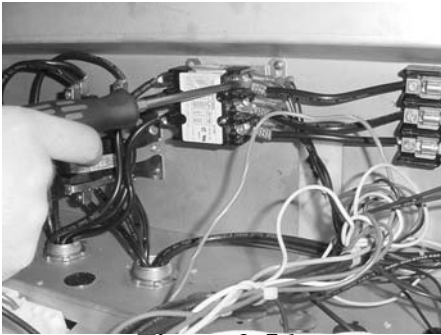

Figure 2-56
1. Remove only the wires directly connected to the contactor being replaced. Label the wires for replacement. Figure 2-56.